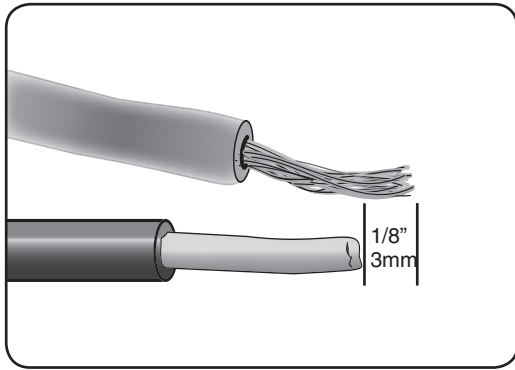

Figure 32
- Extend the dishwasher's stranded wires 1/8" (3mm) beyond the power supply cable's solid wires, as shown in **Figure 32**.